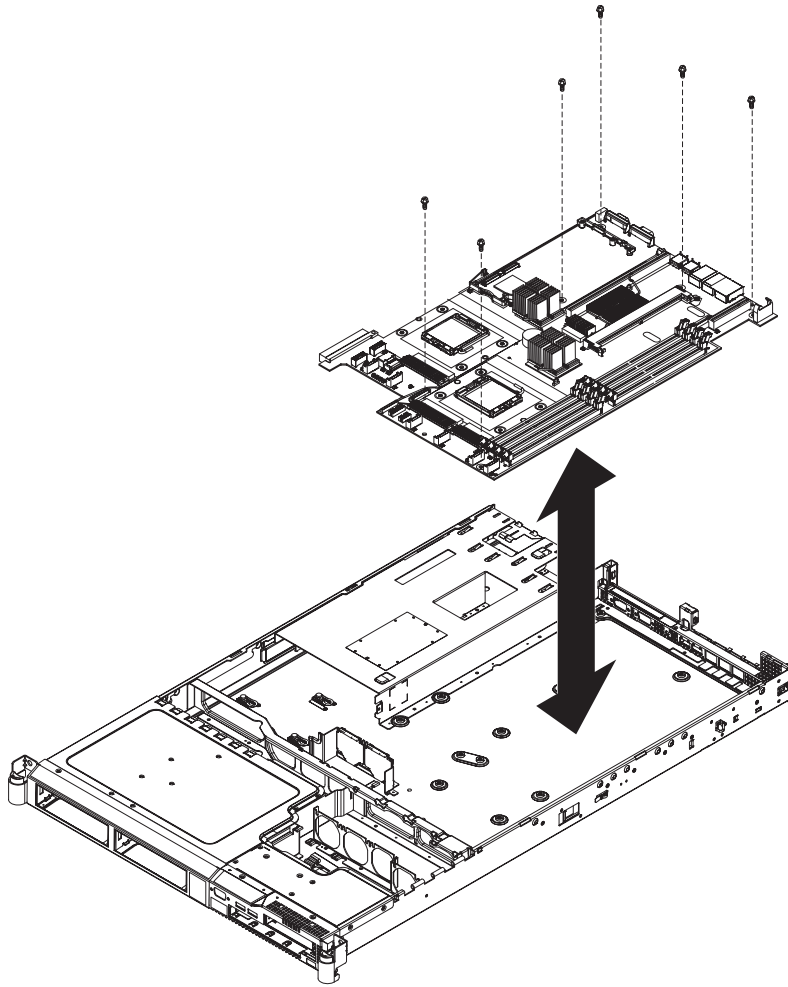

Figure 284. The placement of the screws that secure the SAN Volume Controller 2145-8G4 system board
2. Replace the six screws on the system board, as shown in Figure 284 on page 304, to secure the system board to the chassis.